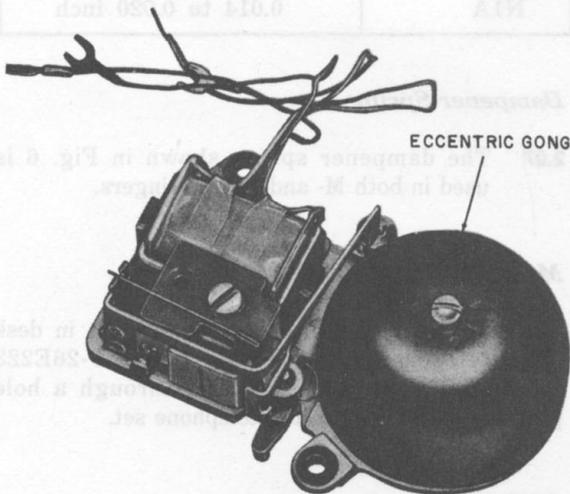
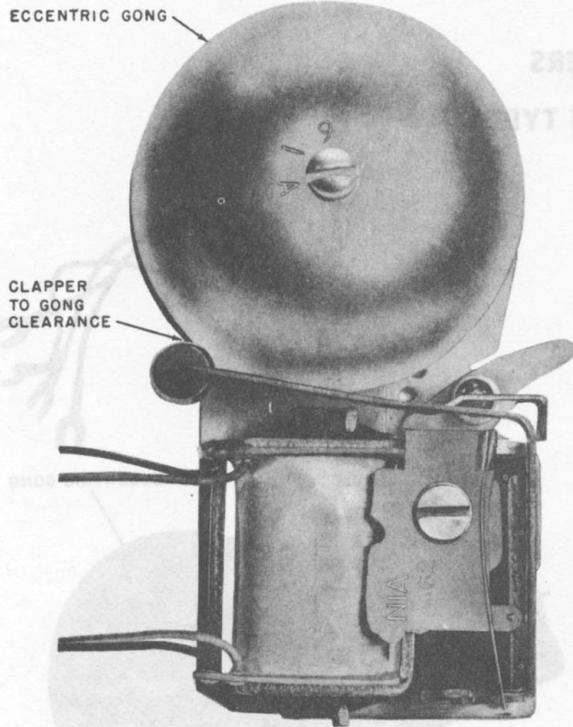

Fig. 1—M1A and M1B Ringer
Fig. 3—N1A Ringer
2.01 The M-type (Fig. 1 and 2) and N-type (Fig. 3) ringers are high-impedance, single-coil, single-gong ringers. The coil on the M1A, M2B, and N1A has four spade-tipped leads for use where tip-party identification is required (Fig. 4). Where tip-party identification is not involved, the two-lead M1B ringer can be used.
2.05 The 61A gong used in these ringers is eccentric (Fig. 1 and 2). The resonator is built in and needs no adjustment. Table A shows clapper to gong clearance.